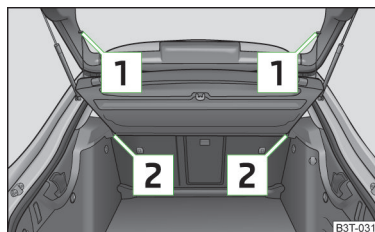

Fig. 103
- Hook the support straps **1** » Fig. 103 onto the tailgate.
- Push the boot cover into the brackets **2** » Fig. 103.